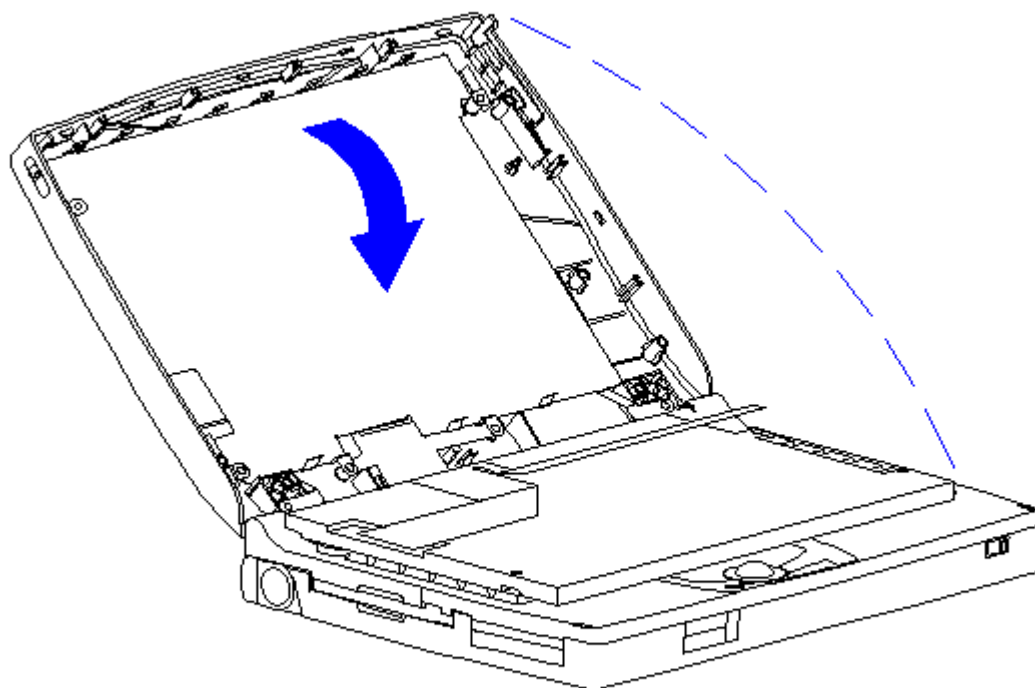

Figure 3-160. Removing the CTFT (10.4 inch) Panel from the Display Enclosure (Models 420 and 430)
8. Carefully rotate the CTFT (10.4 inch) panel down and out of the display enclosure, laying the CTFT (10.4 inch) panel gently on the keyboard assembly (Figure 3-160).